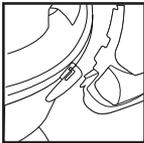

FIGURE 21
17. Place "J" shaped tabs into the slots on cord wraps. **FIGURE 21.** Press down until tabs snap into place.